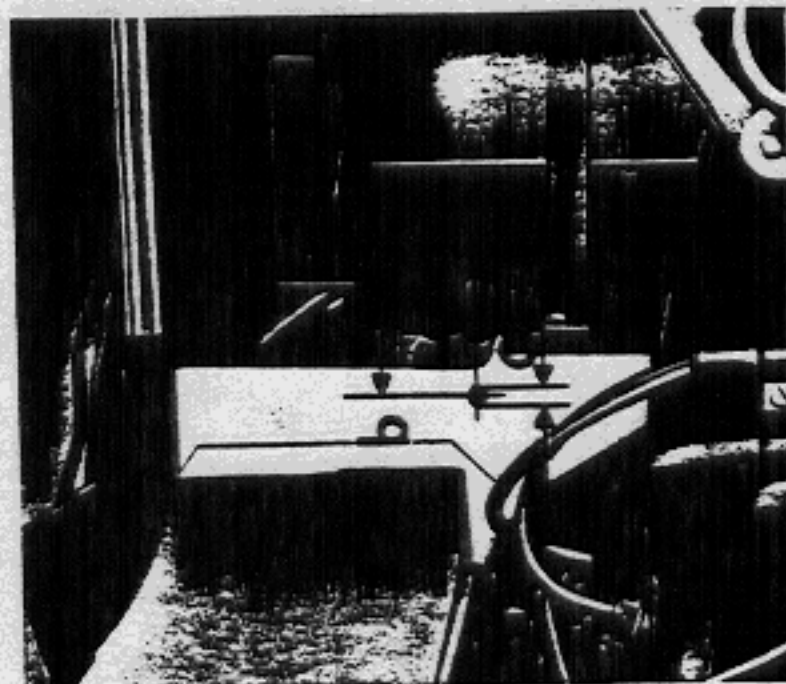

Fig. 2
- 3 - Mark off and drill a 10 mm hole in the partition below the tank support for the new fuel pipe (Fig. 2).